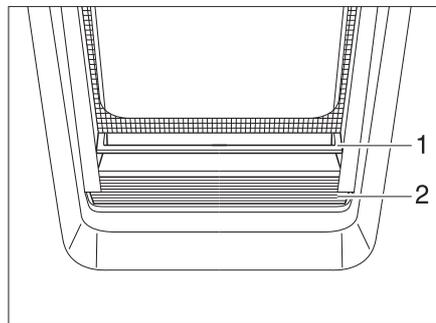

Fig. 28 Roman shade
- Closing:** ■ Grip the Roman shade (Fig. 28,2) in the middle of the holding bar (Fig. 28,1), pull it upwards and then release it at the desired height. The Roman shade will stay at this height.